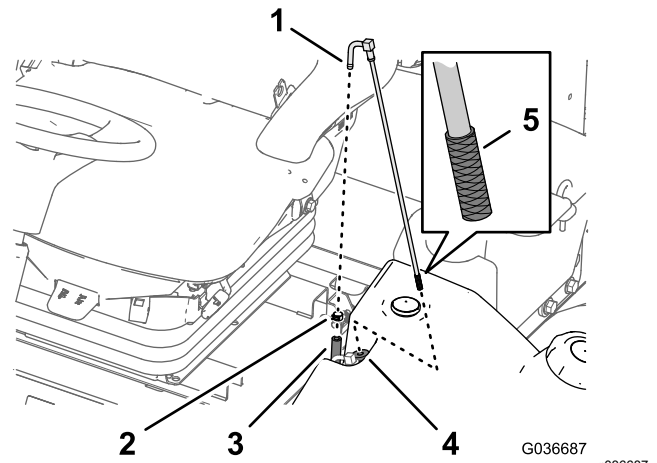

Figure 97
2. Separate the hose from the fitting (Figure 97).
3. Lift the fuel-pickup tube from the fuel tank (Figure 97).
4. Clean any debris from the screen at the end of the fuel-pickup tube (Figure 97).
5. Insert the fuel-pickup tube through the rubber bushing and into the tank (Figure 97).
1. Remove the hose clamp that secures the fuel supply hose to the fitting of the fuel-pickup tube (Figure 97).